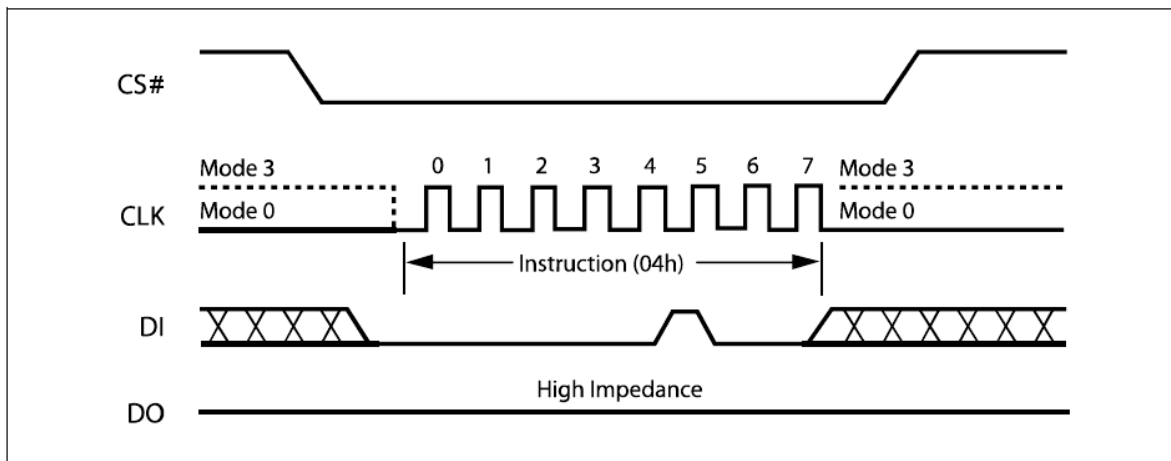

Figure 10. Write Disable Instruction Sequence Diagram
The Write Disable instruction (Figure 10) resets the Write Enable Latch (WEL) bit in the Status Register to a 0. The Write Disable instruction is entered by driving Chip Select (CS#) low, shifting the instruction code “04h” into the DI pin and then driving Chip Select (CS#) high. Note that the WEL bit is automatically reset after Power-up and upon completion of the Write Status Register, Page Program, Sector Erase, Half Block Erase (HBE), Block Erase (BE) and Chip Erase instructions.